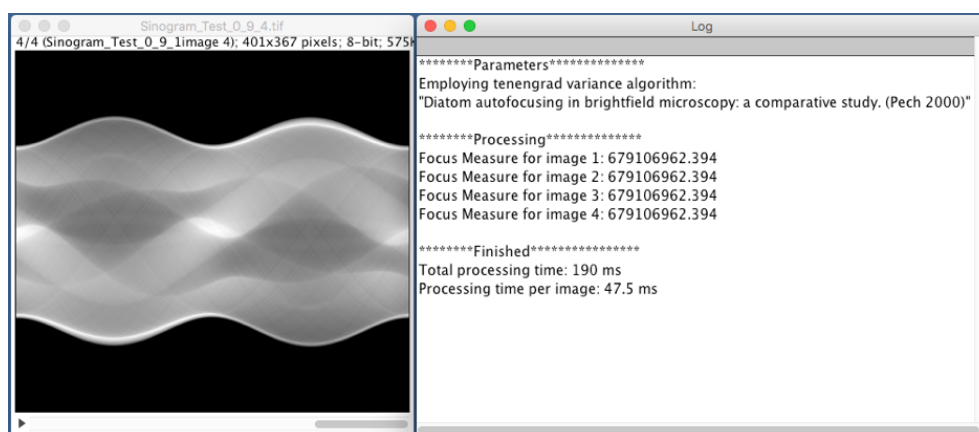

Figure 10: Using the Derive Focus Measure Plugin on a stack of 4 images. The image on the left is the input image stack, the logs on the right are the output.
4. An example is shown in figure 10 for 4 input images.